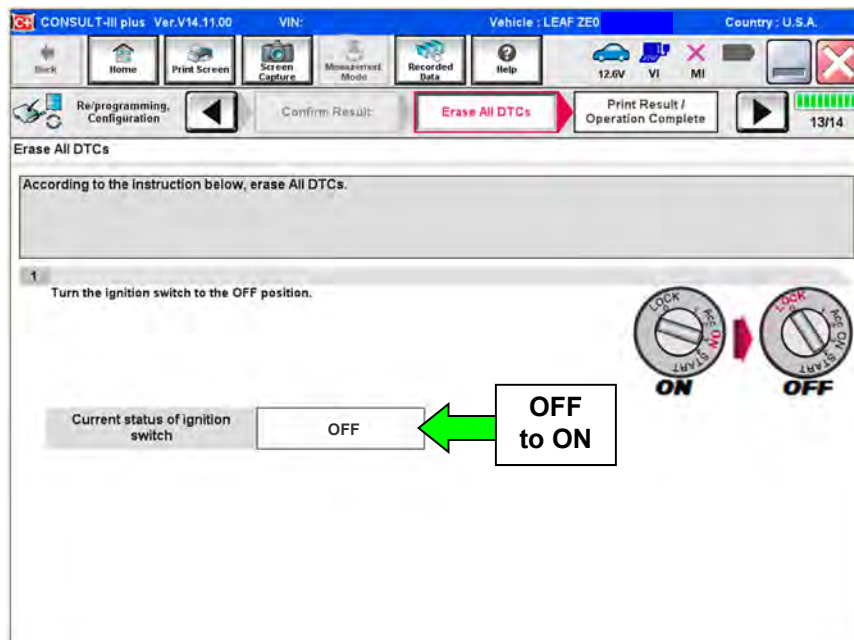

Figure 35
- The screen in Figure 35 will read **ON** after pressing the power switch twice.